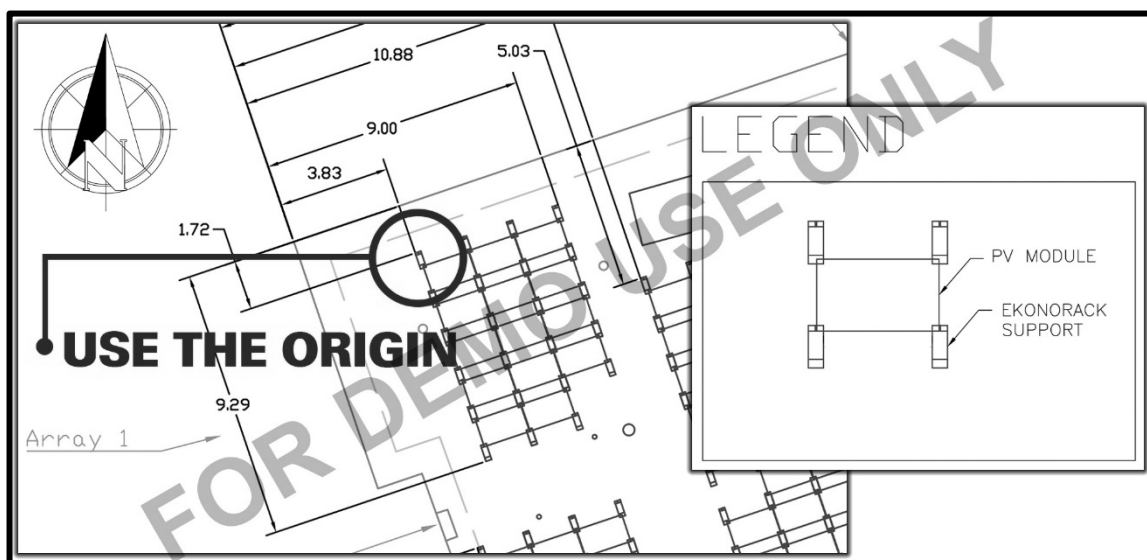

Fig. 3 - Sample Layout Diagram
- 1 Place your first support for an array. Refer to your project specific *Layout Diagram* for dimensions (see example, Figure 3).